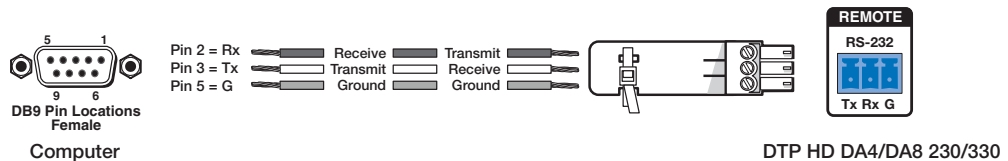

Figure 4. Wiring the DTP HD DA4 and DA8 Series for RS-232 Control
1. Connect an RS-232 cable to the computer, using a female 9-pin D connector (see figure 4):
2. Wire the opposite end of the cable to the provided 3-pole captive screw plug (see figure 4):